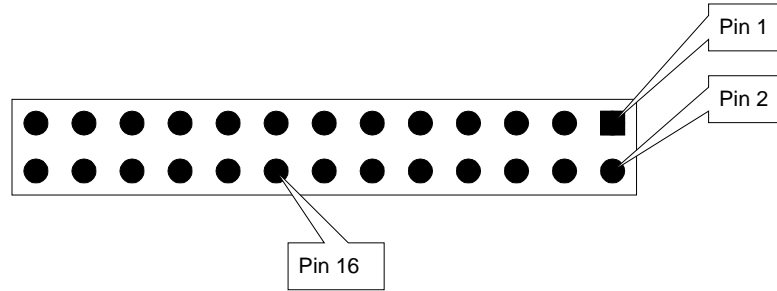

Figure 5-2: Colour Frame Calibration Test Point Location
2. Connect channel B of your scope to J24 pin 16 (J24 is a long double row header located near the front right corner of the circuit board.) See Figure 5-2 for location of J24 pin 16.